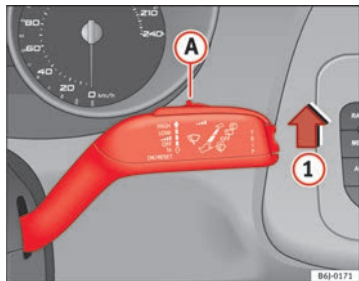

Fig. 65 Windscreen wiper lever
- Move the windscreen wiper lever into position ① ⇒ fig. 65.